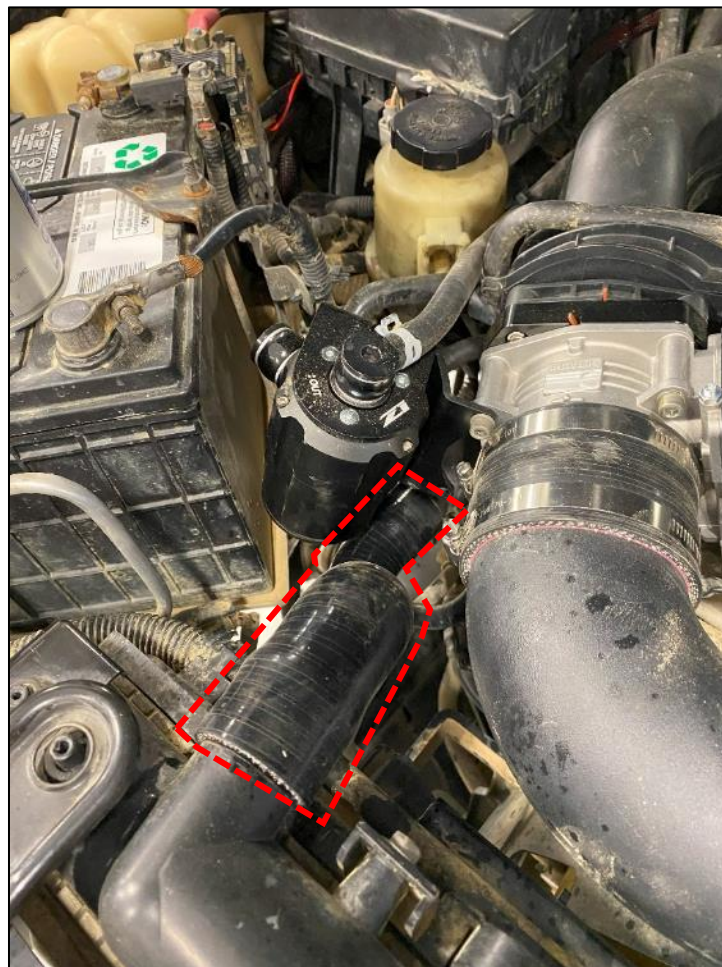

Figure 18
35. Locate the new Radiator Hose. Using the OE Hose Clamps, install it onto the Radiator and Coolant Crossover pipe where the OE Hose was removed in *Step 9.* *Figure 18.*